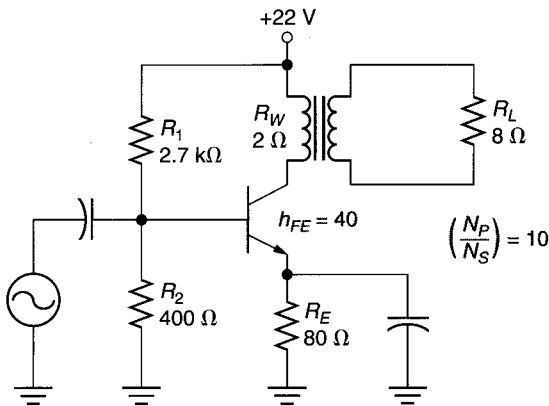

FIGURE 11.52
17. Derive the ac load line for the circuit shown in Figure 11.52.
19. Determine the maximum load power for the circuit in Figure 11.52.
21. Calculate the maximum efficiency of the amplifier in Figure 11.52.
41. Calculate the value of  $P_D$  for the transistor in Figure 11.52.